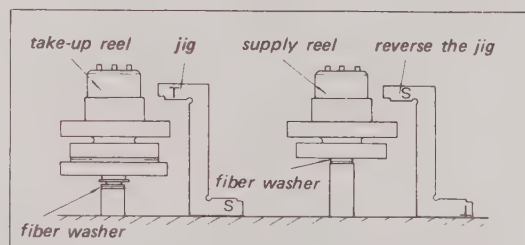

Fig. 5-14. Use of the jig to check reel table height
5. Check the height of the Reel Table using the gauge shown in Fig. 5-14 (Part No. 3-702-207-01). If height is incorrect, add or subtract fiber washers (5 mm dia, 0.3 mm thickness) and metal washers (5 mm dia, 0.1 mm).
7. Check the height of the Reel Table above the chassis using the jig shown in Fig. 5-14. Add or subtract fiber washers (6 mm dia, 0.3 mm thickness) to correct the height.